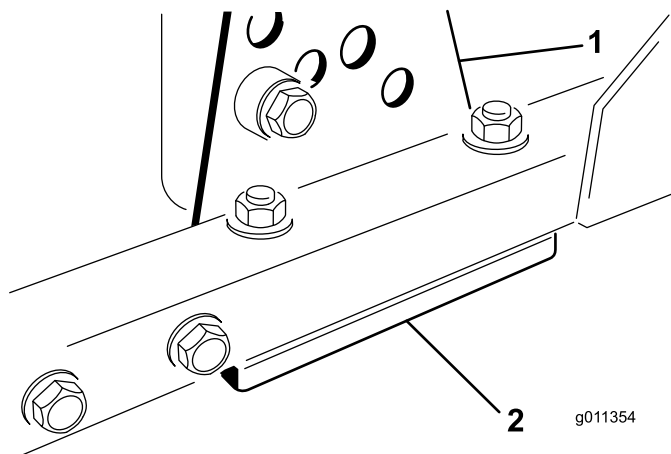

Figure 58
1. Remove the height-of-cut bracket, (front, left, or right) from the deck frame (Figure 58).
2. Adjust 1.5 mm (0.060 inch) shims and/or 0.7 mm (0.030 inch) shim between the deck frame and bracket to achieve the desired height setting (Figure 58).